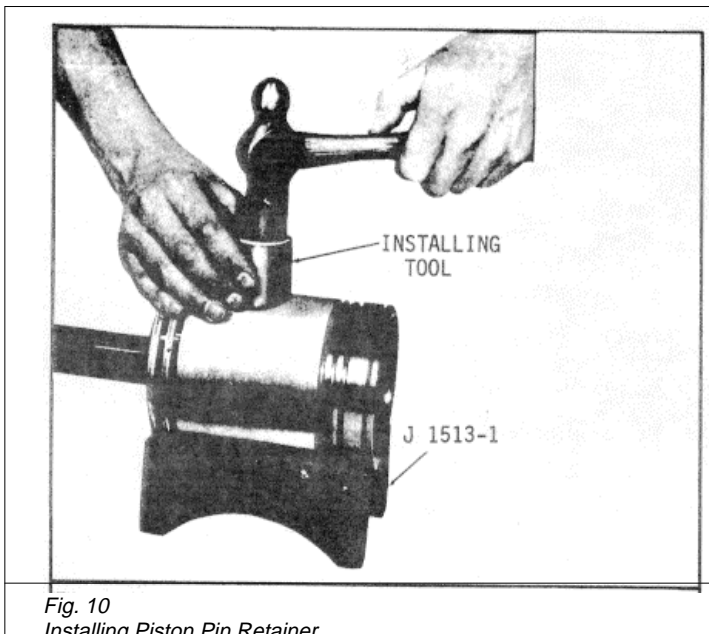

Fig. 10
- (1) Place the piston in the holding fixture (Fig.10).
- (2) Place a new piston pin retainer in position. Then place the crowned end of installer J 24107-01 against the retainer and strike the tool just hard enough to deflect the retainer and seat it evenly in the piston.